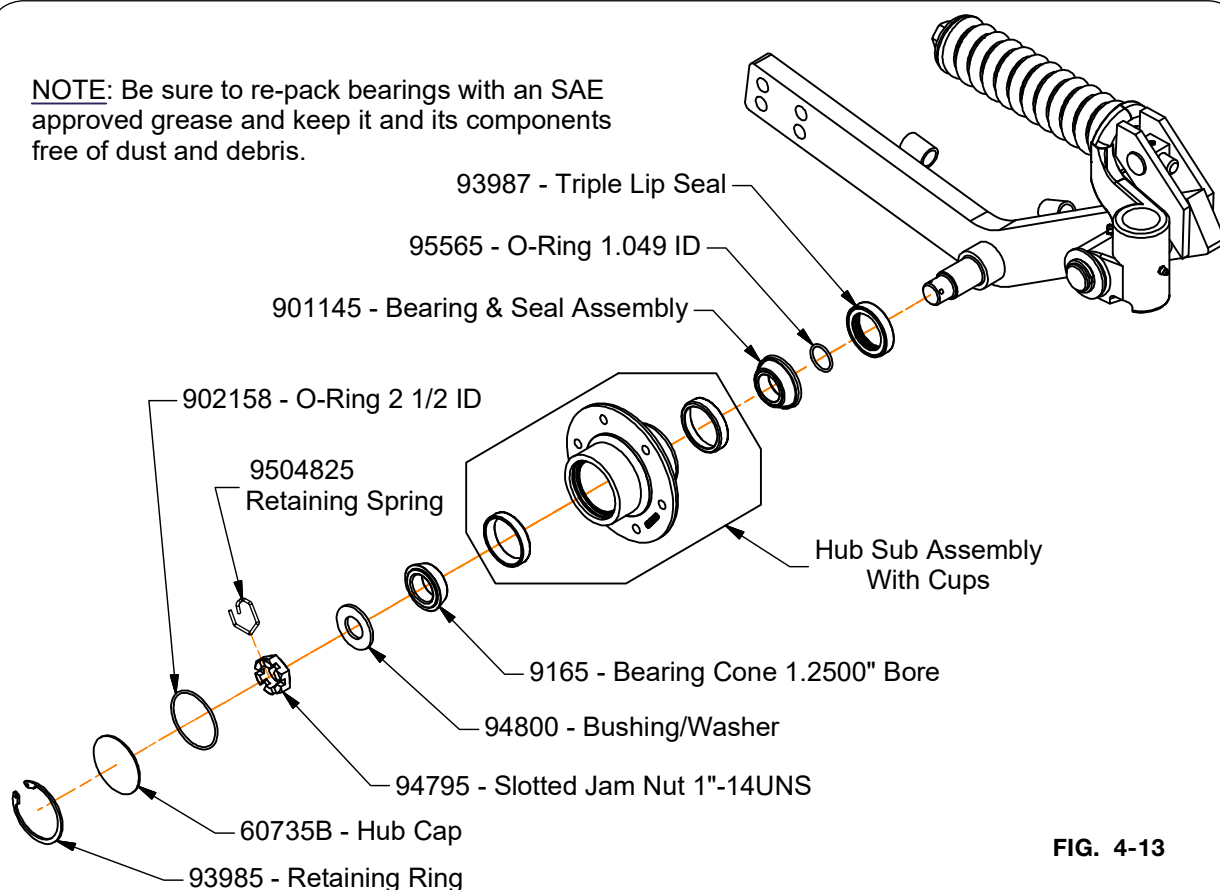

FIG. 4-13
2. If there is wobble in the hub, the hub must be tightened to the spindle. To do this, remove retaining ring and the hub cap. Remove the nut retainer and tighten the slotted nut. The nut should be torqued to 40-45 foot-pounds. Increase the tightness to reinsert the c-ring (FIG. 4-13).
4. Turn the blade and feel for any roughness in the rotation. Also, check the base of the hub to see if the seal is intact and in position. If either problem exists, the hub must be dismantled, cleaned, inspected for damage, and repacked with grease. Refer to the following guidelines for this procedure (FIG. 4-13).
- F. After reassembling the hub, position the slotted nut back onto the spindle and torque to 40-45 foot-pounds. Slightly tighten the nut to align slot (in nut) with the closest cotter pin hole and install C-ring and O-ring (902158) (FIG. 4-13).